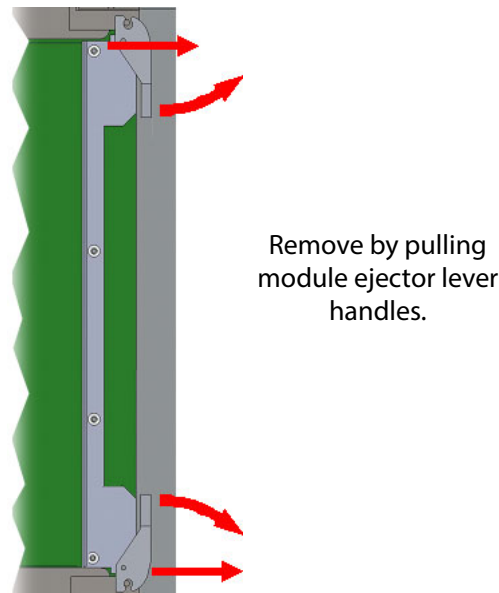

Figure 23 Removing Front Modules, showing use of module eject levers
8. Remove all front modules from front slots that need to be emptied by pulling on the two module eject levers and sliding the module out of the frame. See Figure 23.